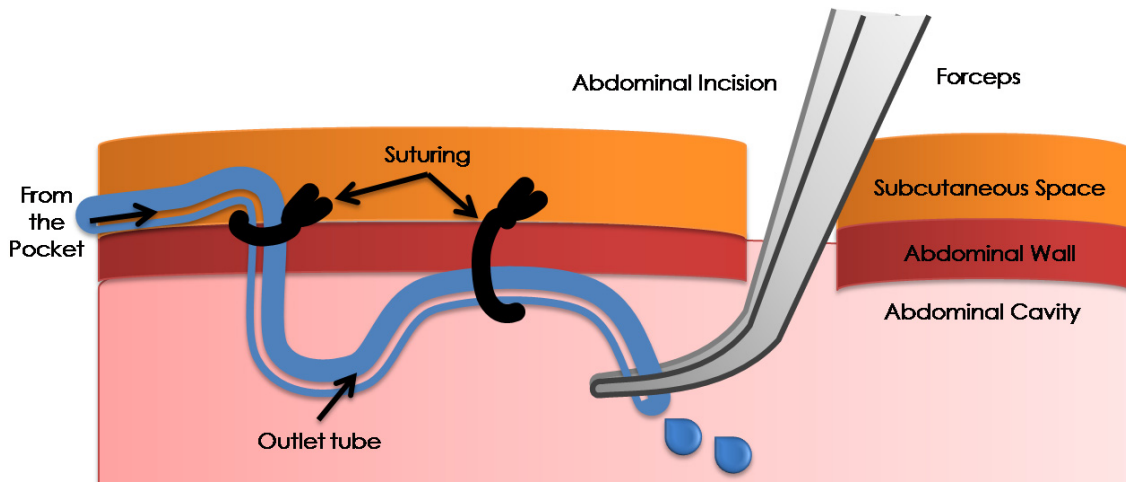

Fig.3A: Abdominal Tube Fixation
6. Access to Abdominal Cavity...**See Fig.3A**